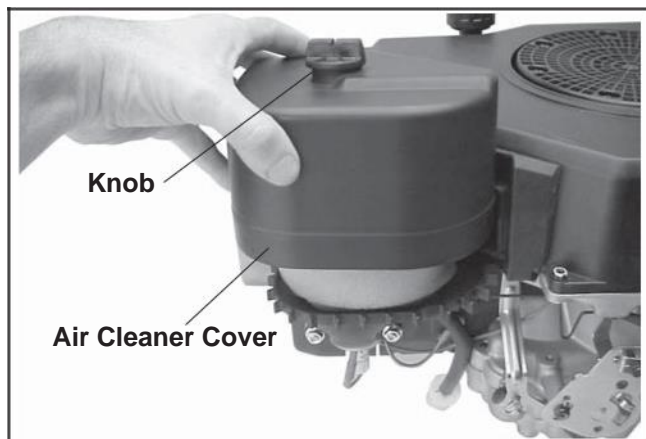

Figure 11-68. Installing Air Cleaner Cover.
6. Install the air cleaner cover and tighten the knob securely. See Figure 11-68.